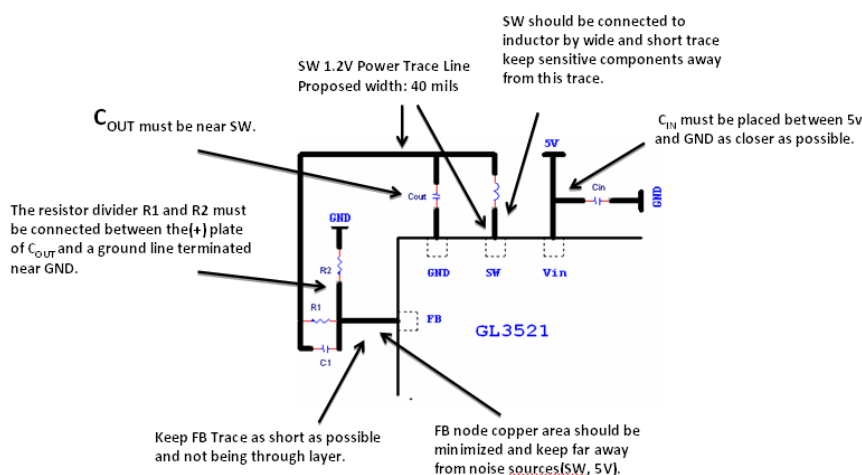

Figure 2.20
1. The layout trace diagram of 1.2V power is described as **Fig. 2.20**. The width of SW 1.2V power trace line is recommended to be 40 mils. The trace of FB is recommended to be as short as possible, and not to be routed through the layer of EMI protection. Please also refer to Section 3.4 Power Source for more information. The resistor divider R1 and R2 must be connected between the (+) plate of C_{OUT} and a ground line terminated near GND. The SW should be connected to inductor by wide and short trace, and keep sensitive components away from this trace. There is large current passing through the pin 88 GND of GL3521. This pin has to be connected with the ground of C_{IN} and C_{OUT} , and the trace has to be wide. Increase the amount of via holes at the ground of pin 88. Increase via holes at the ground of C_{IN} and C_{OUT} .